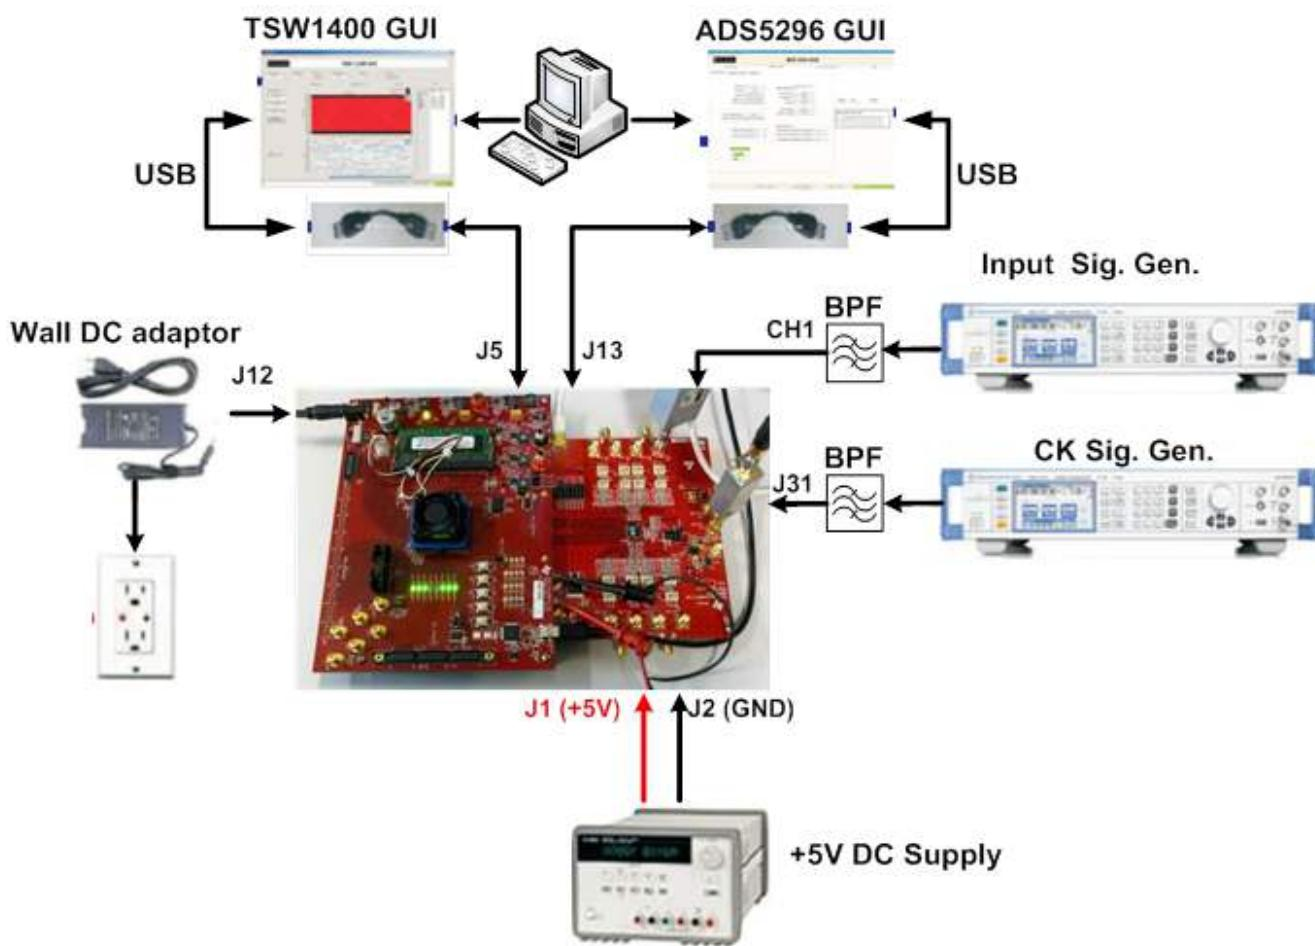

Figure 1. Evaluation Setup
Figure 1 is an overview of the evaluation setup that includes the ADS5296 EVM, TSW1400 data capturing card, external equipment, personal computer (PC), and software requirements.
Equipment: Signal generators (with low-phase noise) must be used as source of input signal and clock in order to get the desired performance. Additionally, band-pass filters (BPF) are required in signal and clock paths to attenuate the harmonics and noise from the generators. (*Note: Functionality of the setup shown in Figure 1, including the LVDS interface between the ADS5296 and FPGA on the capture card, can be tested using the on-chip test pattern generator and the on-board crystal oscillator for an ADC sampling clock source.*)